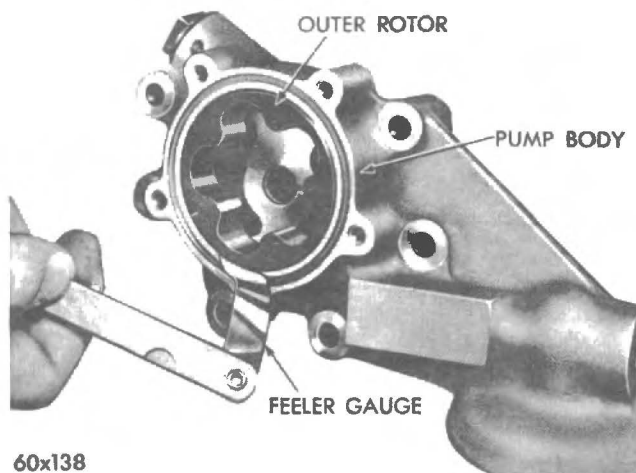

Fig. 7 - Measuring outer rotor clearance.
(7) Remove inner rotor and shaft leaving the outer rotor in pump cavity.
(8) Press the outer rotor body to one side with fingers and measure the clearance between outer rotor and pump body. If measurement is more than .012" replace the oil pump body (see Fig. 7).